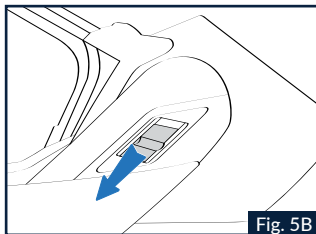

Fig. 5B
1.4 Regardless of the initial position of the visor, this one will remain in its maximum open position after the chin guard has been opened. If the helmet is used with chin guard open (J configuration), it is recommended that you place the left side locking slider in position "J" to secure the chin guard in this position (Fig.5B).
When the left side locking slider is in position "J", the chin guard cannot be closed and remains blocked in open position (Fig.5B).